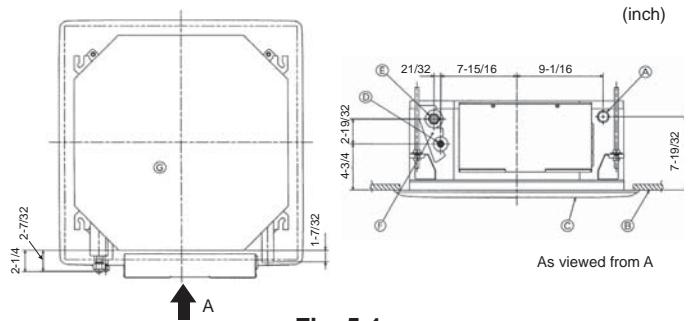
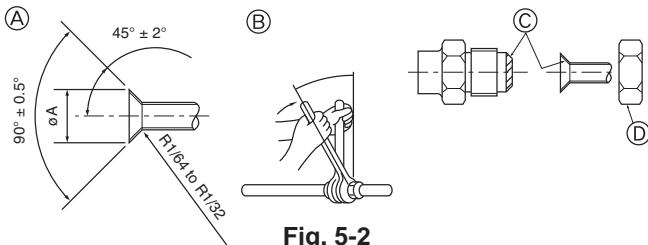

Fig. 5-1
Fig. 5-2
5.1. Refrigerant and drainage piping locations of indoor unit (Fig. 5-1)
- (A) Drain pipe
- (B) Ceiling
- (C) Grille
- (D) Refrigerant pipe (liquid)
- (E) Refrigerant pipe (gas)
- (F) Water supply inlet
- (G) Main unit
5.2. Connecting pipes (Fig. 5-2)
⑧ Flare nut tightening torque